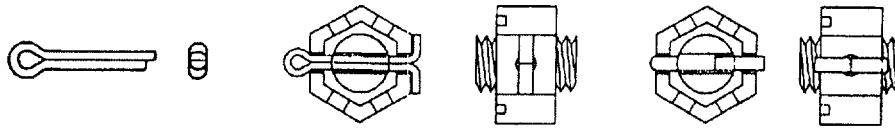

Figure 075-5-7. Cotter Pin
**075-5.4.2 PINS.** Various types of pins have been designed to prevent nuts from rotating on bolts. They are used in one of three ways: (1) with castellated nuts, (2) in holes drilled through the body of the nut (using an extra tall nut and drilling the hole in the center of a wrench flat) and through the bolt, and (3) through the bolt at a point beyond the nut.
**075-5.4.2.1 Cotter Pins.** Cotter pins (cotter keys) are used with castellated nuts and installed as shown in Figure 075-5-7. Cotter pins may be found in the Afloat Shopping Guide under Federal Supply Class 5315.